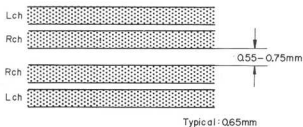

Fig. 5.14
(2) Record Head Height Adjustment and Azimuth Alignment
- Immerse the recorded tape in a magnetized developing solution. In turn, check to insure that the recording head tracks across the center are separated with a distance of 0.55 to 0.75 mm (typically 0.65 mm) as illustrated in Fig. 5.14.